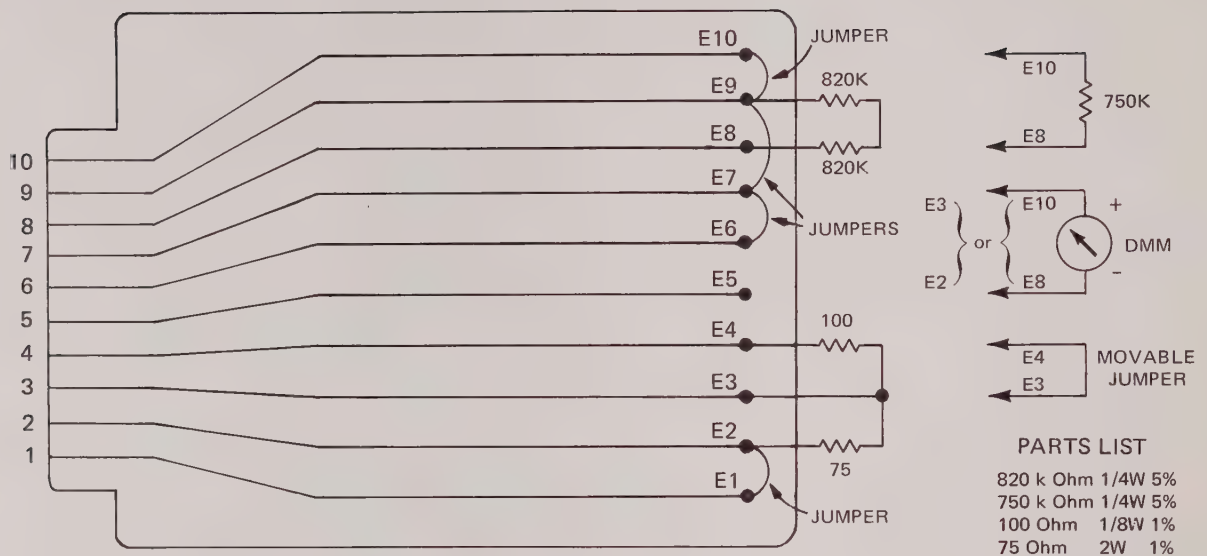

Figure 2-2. Extender Board Configuration
- Step 5: Using the basic PCB and the listed components, construct the Extender Board according to Figure 2-2. Three variable items should also be available:
- (1) **Movable 750k Ohm Resistor.** Connect alligator clips to the ends of the 750k Ohm resistor.
- (2) **Movable Short.** Connect alligator clips to the ends of a piece of wire to provide a movable short.
- (3) **Movable Meter (DMM).** Use alligator clips or other movable contacts on the Digital Multimeter.
- Step 6: Plug Extender Board into repeater test receptacle insert. Connect movable short across E3 and E4. Connect DMM across E2 and E3 with polarity as shown in Figure 2-2.